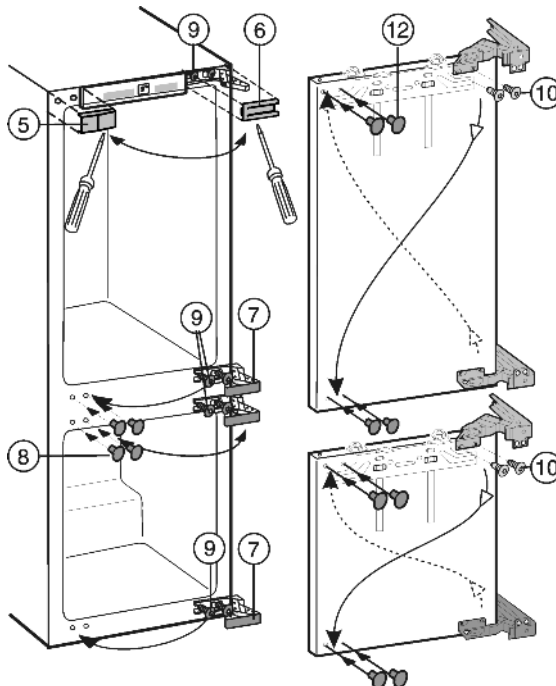

Fig. 4
- ▶ Lift off the covers Fig. 4 (5,6,7,8) forwards using a flat-blade screwdriver.
- ▶ Loosen the top and bottom screws Fig. 4 (9) on the appliance body, without removing them.
- ▶ Transfer the screws Fig. 4 (9) to the opposite side and screw them in a little.
- ▶ Undo the screws Fig. 4 (10) and change over the hinges diagonally.
The screws Fig. 4 (10) are self-tapping: use a cordless screwdriver.
- ▶ Place plugs Fig. 4 (12) in the now unused fastening holes.
- ▶ Attach the doors to the pre-fitted screws Fig. 4 (9) and tighten the screws **firmly with 4 Nm**.